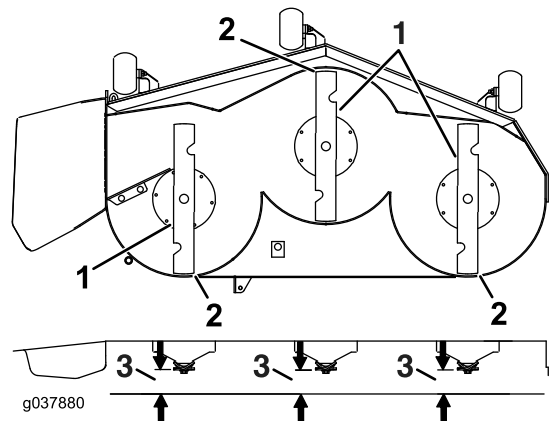

Figure 73
7. Check the front-to-rear blade level (Figure 73). Ensure the front blade tip is lower than the rear blade tip as shown in the block height and rake table. If adjustment is needed, continue with this procedure.